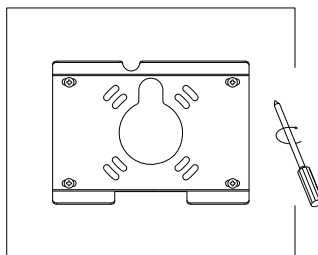

Figure 2-3
3. Align mounting bracket with hole;tighten screws.(Figure 2-3)